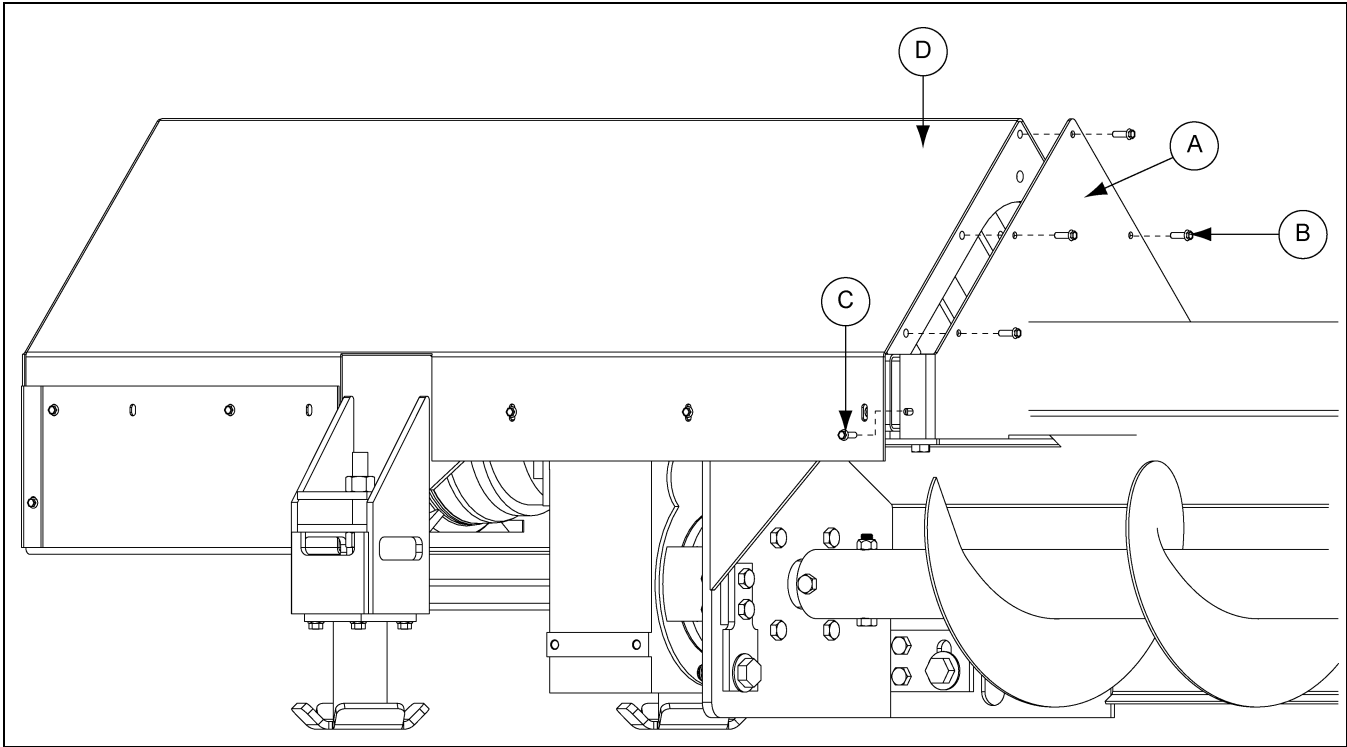

Figure 7AG
1. Attach auger motor front cover (A) to the auger motor hood (D) and install with hex bolts (B).
2. Install hex bolts (C) and nuts to each side of the auger motor hood (D). *(See Figure 7AG.)*